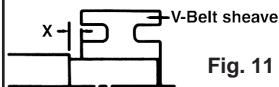

Fig. 11
**Place the sheave and belt as close as possible to the motor body (it is advisable to make X as shown in Fig. 11 equal to 0) to reduce the bending moment and improve shaft life.**